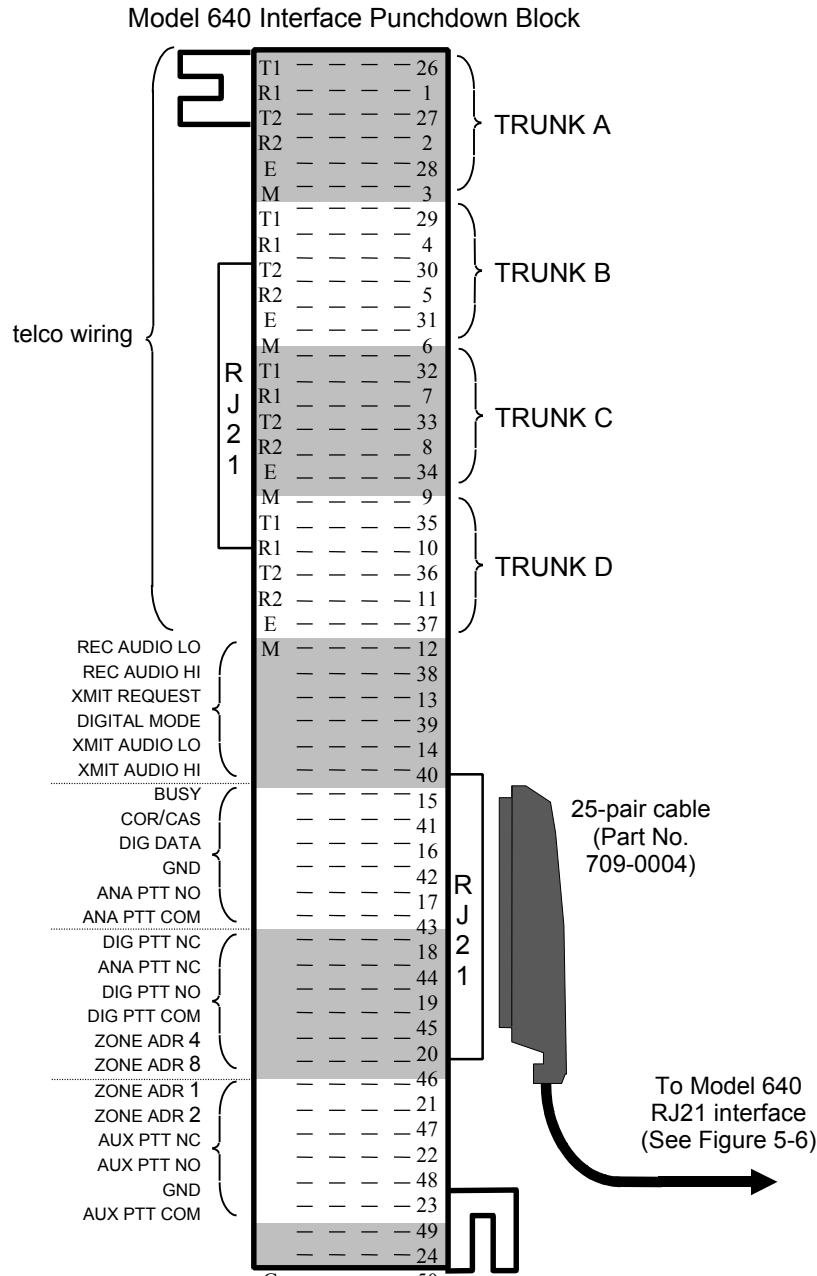

Figure 28. Punchdown Block Radio Connections
2. Connect the leads for each required radio signal to the punchdown terminal as shown in Figure 28.